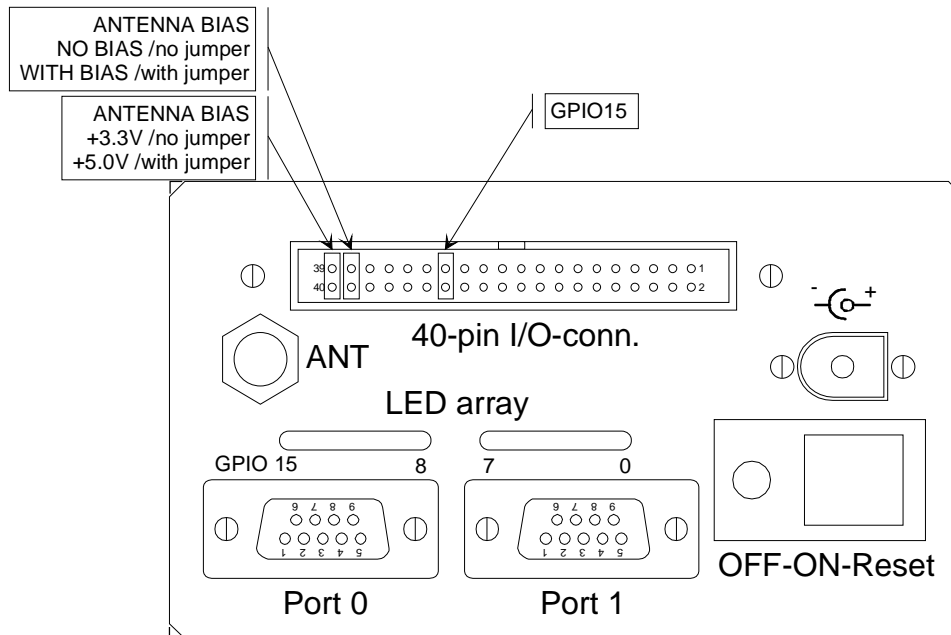

Figure 1 Back panel of the Evaluation Kit
- Check the Antenna Bias jumper from figure 1 (factory default +5V, suitable with the antenna supplied with the Kit). If necessary change according to your GPS Antenna.